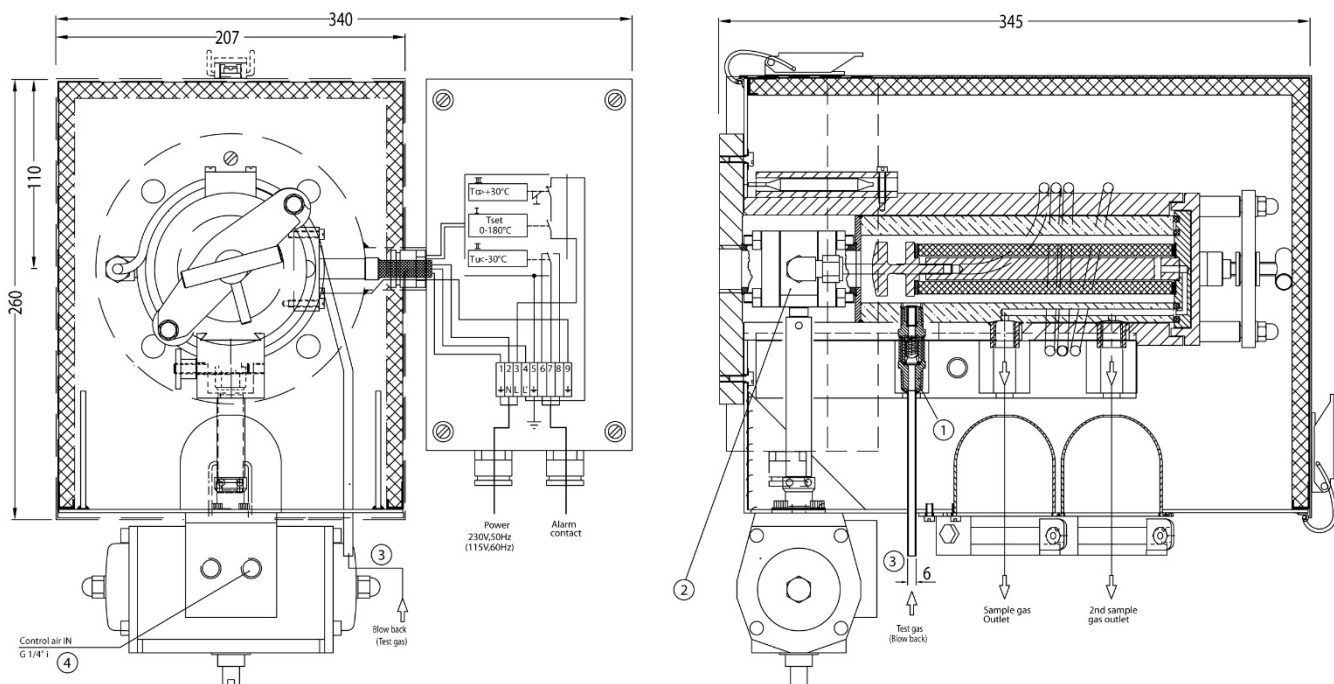

Figure 8 Connection test gas feeding or blow back line
The drive line for actuating the pneumatic drive is connected via a corresponding tube or pipe fitting with G1/4" outside thread ④ (Figure 8 and figures 31 to 34). The required drive pressure is 6.5 up to 9 bar abs.